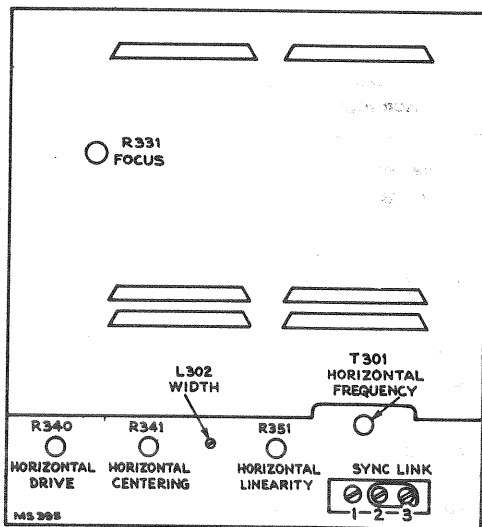

Figure 7—Horizontal Deflection Chassis Adjustments
**CHECK OF HORIZONTAL OSCILLATOR ALIGNMENT**—The sync link (see Figure 7) must be in the normal position (2 to 3). Turn the horizontal hold control to the extreme counterclockwise position. The picture should remain in horizontal sync. Momentarily remove the signal by turning the picture control fully counterclockwise and then returning it to the operating position. Normally the picture will pull into sync.